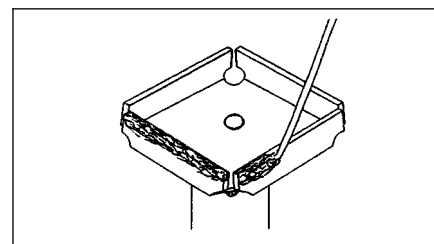

Figure 2 Tin Tip
8. Tin outside and bottom edges of tip with solder. (See Figure 2.)